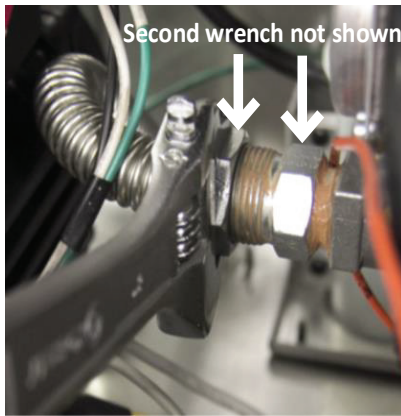

Figure 2
6. Inside the jacket, use one adjustable wrench to hold the CSST adapter. Use the second wrench to loosen and disconnect the CSST flair nut (Figure 2).